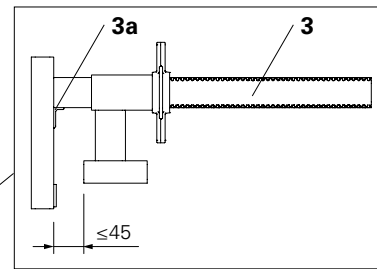

Fig. A2.05b
- Slab or parapet thickness:  $\leq 45$  cm. (Fig. A2.05b)